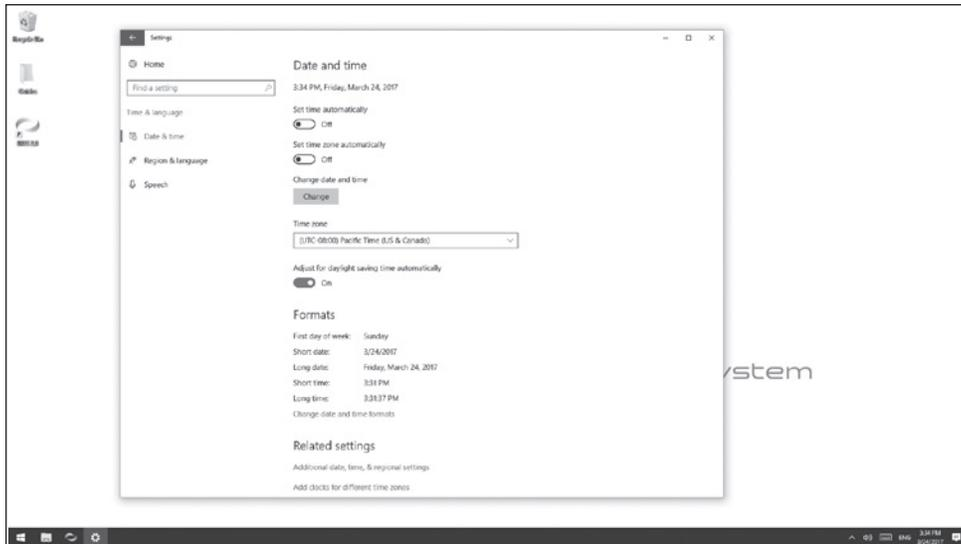

Figure 25: Date and Time Settings Menu
2. Select the appropriate time zone from the drop down menu. See Figure 25.